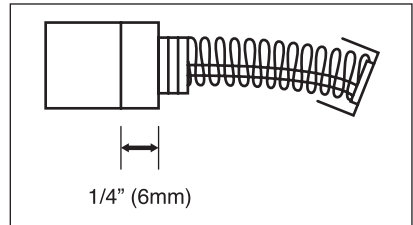

Fig.9
part and must be replaced when they reach their wear limit. See fig.9. To replace: simply remove the brush caps (47) and withdraw the old brushes (46). Replace with new brushes (always replace as a pair) ensuring that they align properly and slide freely. Then replace the brush caps. See fig.10.